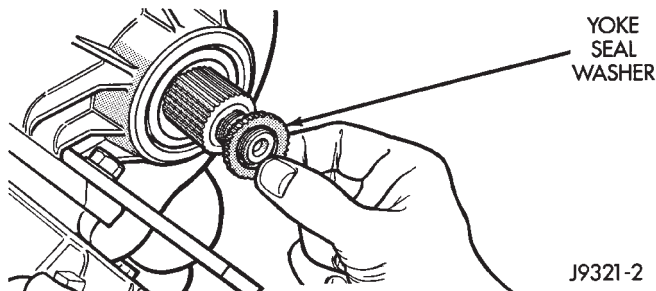

Fig. 2 Removing Yoke Seal Washer
(3) Remove yoke seal washer from front output shaft (Fig. 2).